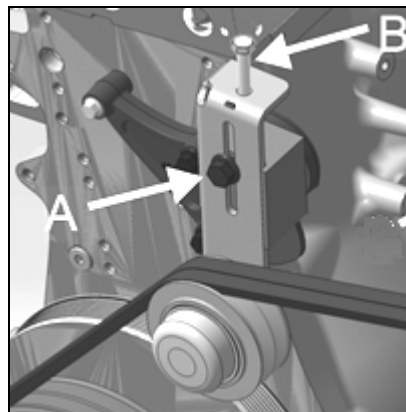

FIG.8 A/C BELTS TENSION ADJUST.
10. Belt tension is applied through the tensioner adjustment screw (B). Tighten until the belts are under correct tension (Fig.8). Belt tension should be within the following values*:
11. Once correct value is achieved, tighten lock screw (A) to **43 lb-ft** and add a stripe of yellow torque seal to the bolt head (Fig.8).